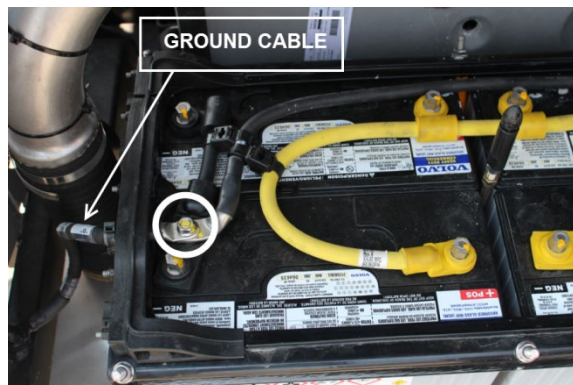

FIGURE 48: DISCONNECT GROUND CABLE FIRST
2. Disconnect the ground cable first (FIGURE 48).